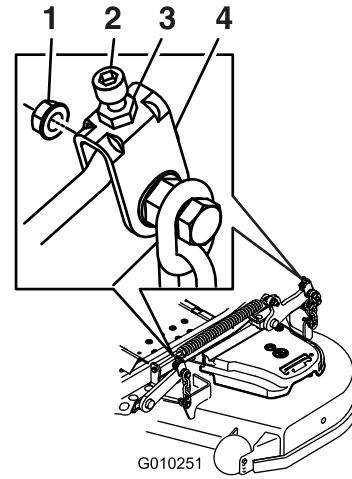

Figure 93
10. If needed, loosen the whizlock nut on the side of the yoke and the jam nut on top. Fine tune the screw adjuster by turning it to get a 7.6 mm (3 inch) height (Figure 93).
16. Fine-tune the screw adjuster by turning it to get 8.3 mm (3-1/4 inches) height (Figure 93).